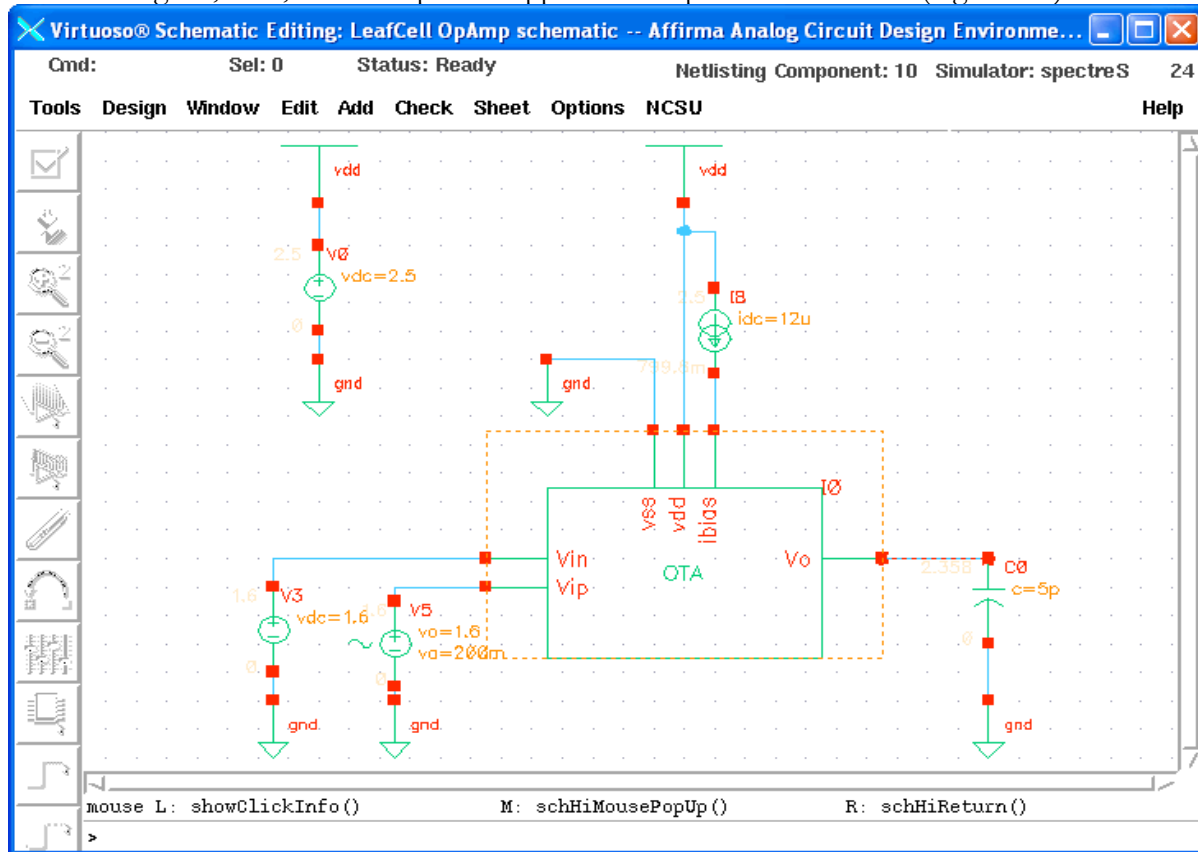

Figure 141: Adding the OpAmp and stamping it down into the OTA test bench.
9. Adding CL, Ibias, and other power supplies to complete the test bench (Figure 141)